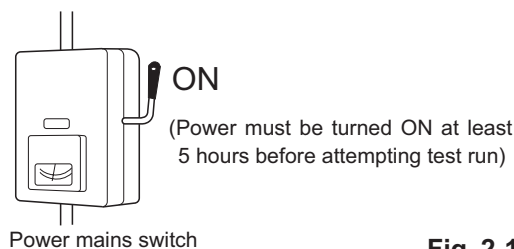

Fig. 2-1
- (1) All loose matter is removed from the cabinet especially steel filings, bits of wire, and clips.
- (2) The control wiring is correctly connected and all electrical connections are tight.
- (3) The protective spacers for the compressor used for transportation have been removed. If not, remove them now.
- (4) The transportation pads for the indoor fan have been removed. If not, remove them now.
- (5) The power has been supplied to the unit for at least 5 hours before starting the compressor. The bottom of the compressor should be warm to the touch and the crankcase heater around the feet of the compressor should be hot to the touch. (Fig. 2-1)